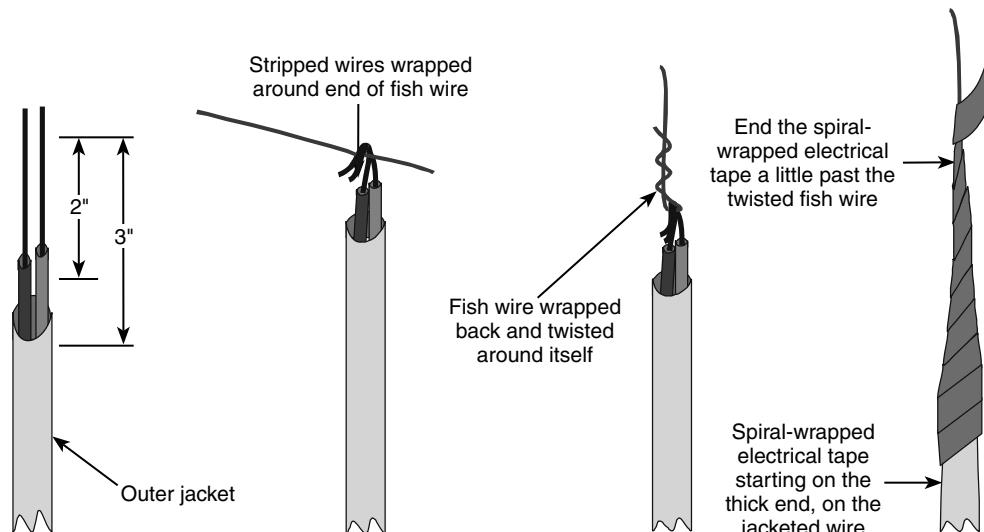

Figure 8-11
- Once it's there and pulled out of the cutout, strip 3 inches of the outer insulation from the electrical wire, and 2 inches of insulation from the two insulated wire ends. See Figure 8-11.